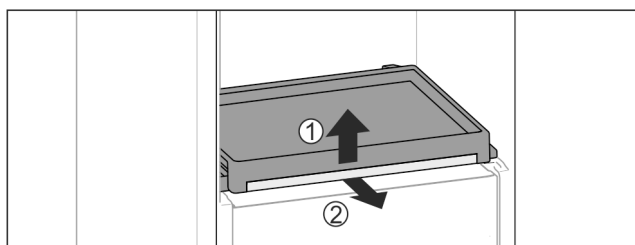

Fig. 111
- To remove the pull-out board with glass panel: Gently lift the glass panel at the front Fig. 111 (1) and pull out to the front Fig. 111 (2).